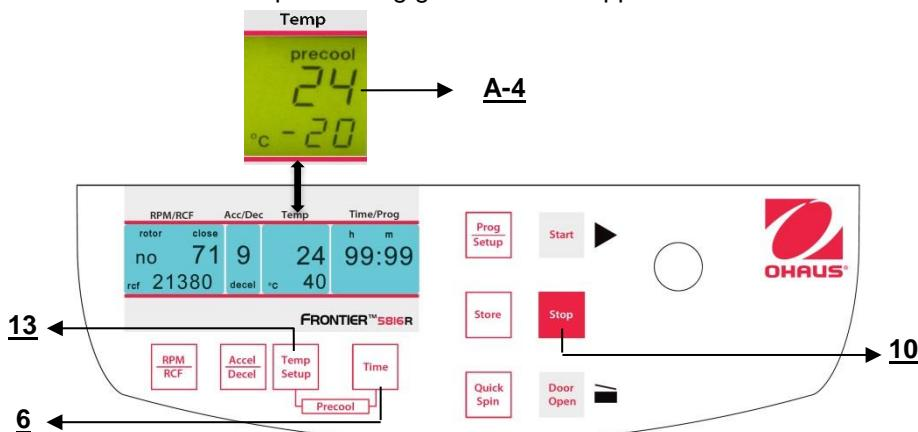

Figure. 20
If the samples are temperature-sensitive it is useful to pre-cool the centrifuge, the rotor and eventually the buckets to the required working temperature. Therefore, insert the desired rotor and pre-set the respective temperature. By simultaneous pressing the keys "Temp/Setup" (13) (refer to figure 20) and "Time" (6) you start the run. While running, the unit chooses automatically a rotational speed that is equivalent to 20 % of the permitted rotational speed of the respective rotor. After the pre-set temperature is reached you can leave the pre-cooling run with the "Stop" key (10).